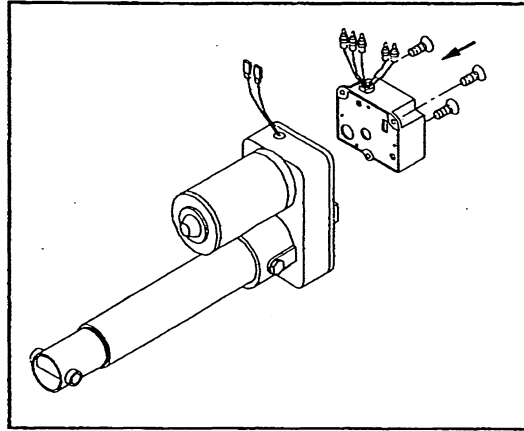

Fig.8-4
1. Replace a new VR and secure with screws (see fig.8-4).